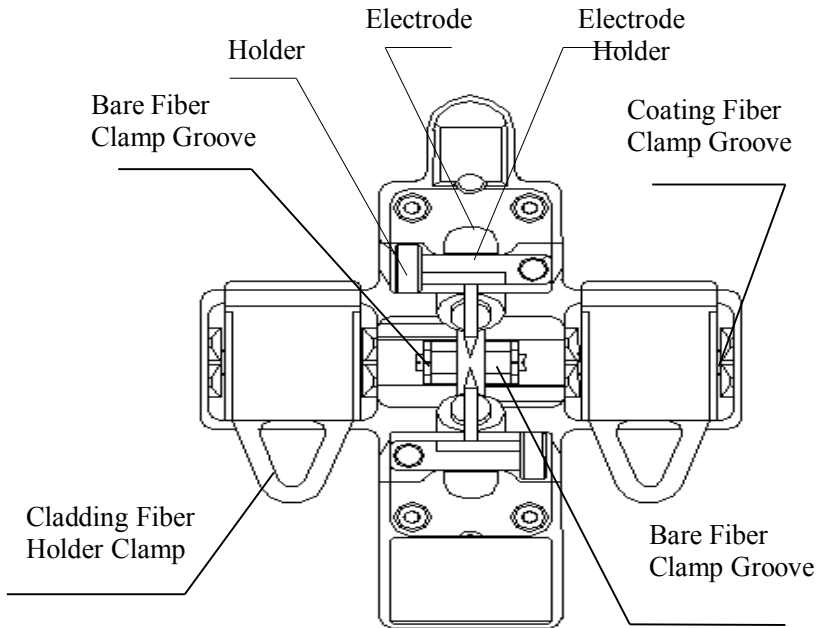

Figure F-1
2. Open the shield. The FigureF-1 shows the structure of the electrodes.